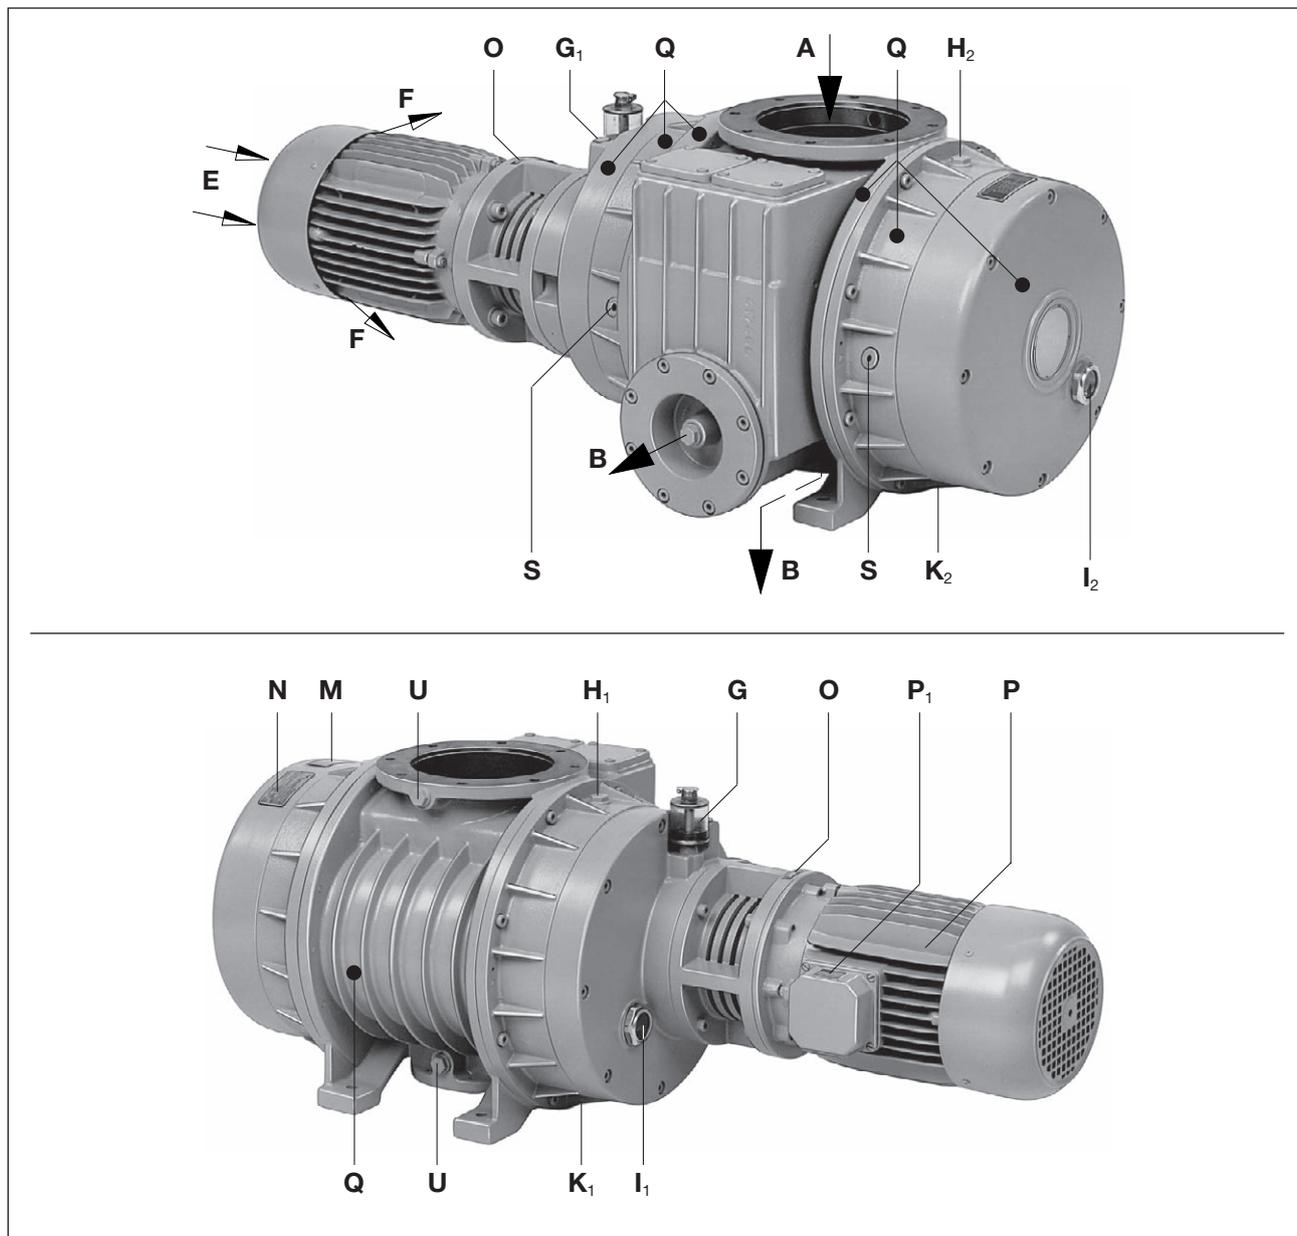

Fig. 2 Rotary lobe vacuum pump R-VWP 500 / R-VWP 1000 / R-VWP 1500
High-vacuum connection (Fig. 2/A, 3/A 5/A) and pre-vacuum connection (Fig. 2/B, 3/B, 5/B) have flanges according to DIN 28404 (R-VWP 500/ 1000/ 1500) or DIN 2501 (R-VWP 2500).
The oil filling ports (Fig. 2, 3/H₁, H₂), oil sight glasses (Fig. 2, 3/I₁, I₂), oil drain points (Fig. 2, 3/K₁, K₂) and sealing oil pot (Fig. 2, 3/G) should all be easily accessible. The cooling air entry (Fig. 2, 3/E) and the cooling air exit (Fig. 2, 3/F) must have a minimum distance of 20 cm from any obstruction. The discharged cooling air must not be re-circulated
- b) High-vacuum connection at (Fig. 2/A... 3/A).
- c) Pre-vacuum connection at (Fig. 2/B... 3/B).
In order to prevent aggressive media from penetrating into the gear chamber, sealing gas can be superimposed over the labyrinth sealing system (see sealing gas connection (Fig. 2, 3/S)).
Gauge connection at (Fig. 2, 3/U) for connecting of measuring installations.
- a) The lubricating oil (recommended brands see under "Maintenance") for the toothed wheels and bearings can be put into the booth oil filler ports (Fig. 2, 3/H₁, H₂), until the oil level shows at the middle of the oil sight glasses (Fig. 2, 3/I₁, I₂). After filling make sure the oil filler port is closed.
- b) The shaft sealing oil must be filled in the sealing oil pot (Fig. 2, 3/G). The oil level must be visible.
- a) The motor's electrical data is given on the data plate (Fig. 2, 3/N) or on the motor data plate (Fig. 2, 3/P₁). The motors comply with DIN EN 60034 and are in protection class IP 55 and insulation class F. The appropriate connection diagram is located in the motor's terminal box (not for the plug connection version). The motor data must be compared with the data of the existing mains network (current type, voltage, network frequency, permitted current value).